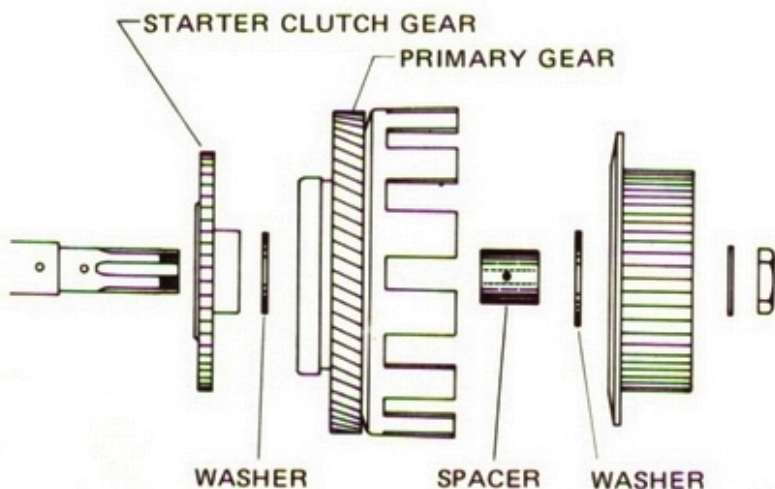

Fig. 7-3-10
- 1) On assembling the clutch, place the washer and the spacer in right position as shown in Fig.7-3-10.